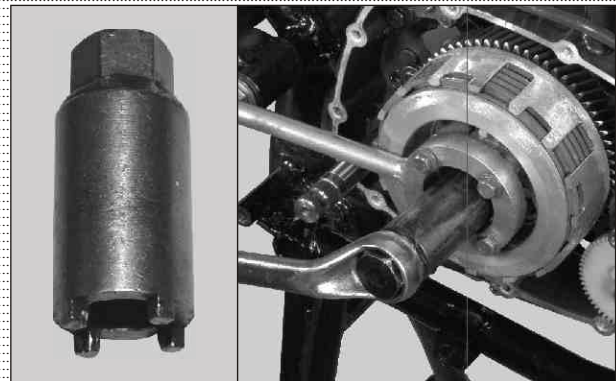

Fig. 1.16
- Used to loosen and tighten the nut clutch shaft. (Fig 1.16)